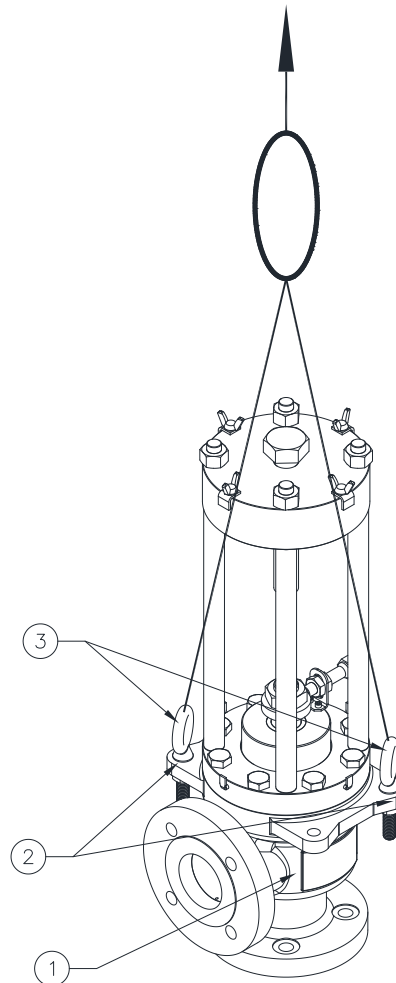

Figure 1: BPCV with Eye Bolts – DO's for smaller valves
1. All BPCVs are provided with lifting points built-in into its Main body as shown in Figure 1. The lifting points are through holes mounted on the sides of the valve body.